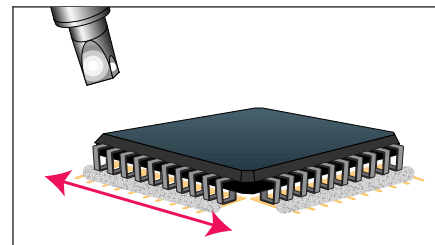

Figure 4 Pre-dry Paste
6. Direct hot air over solder paste/component termination at a distance of 2.5 cm to pre-dry solder paste. (See Figure 4.)